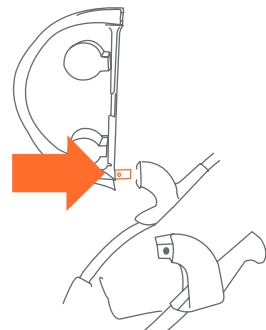

Fig. 10a
- 10)** • To attach the child tray: Push the angled tray onto the post at the end of the right armrest, until locked into place (Fig. 10a).